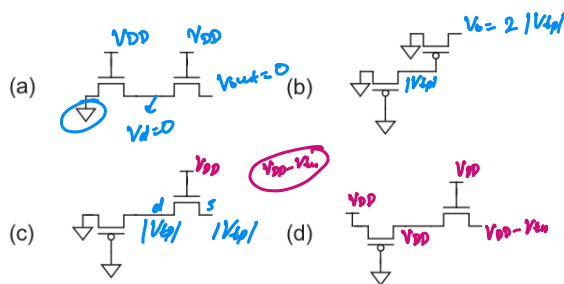

FIGURE 2.35 Pass transistor networks
2.20 Give an expression for the output voltage for the pass transistor networks shown in Figure 2.35. Neglect the body effect.